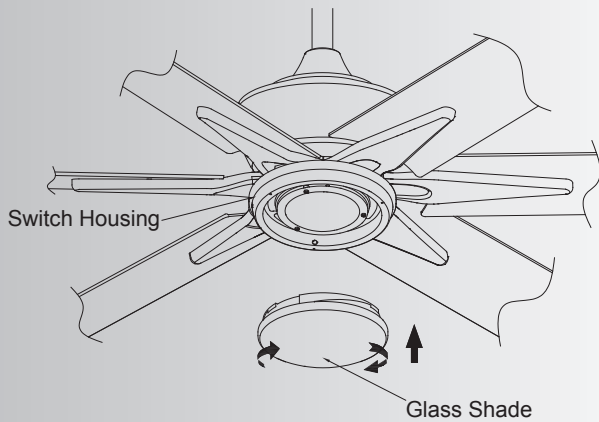

Fig. 22
Step 3. Secure the glass shade to switch housing by twisting in a clockwise direction. Do not over-tighten. (Fig. 22)